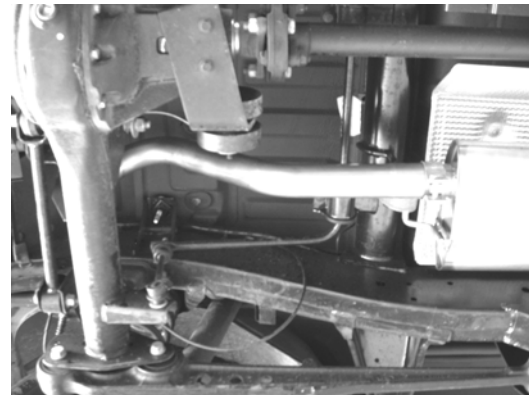

Figure 6
2. Place a clamp over the expanded end of the intermediate pipe and set it into position as shown in figure 6. DO NOT tighten the clamp.